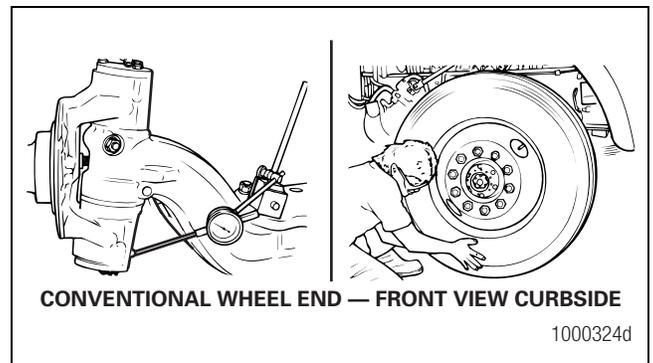
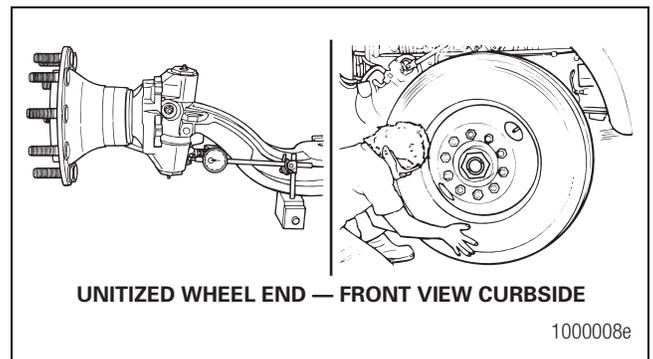

**Figure 6.11**
**Figure 6.12**
3. Check the upper king pin bushing for wear. Install a dial indicator with the base on the I-beam and the tip against the side of the top of the knuckle. Figure 6.11 and Figure 6.12.
- **If the indicator moves a total of 0.010-inch (0.254 mm):** The upper bushing is worn or damaged. Replace both bushings in the knuckle. Refer to Maintenance Manual 2, Front Non-Drive Steer Axles, for more information. Figure 6.11 and Figure 6.12.